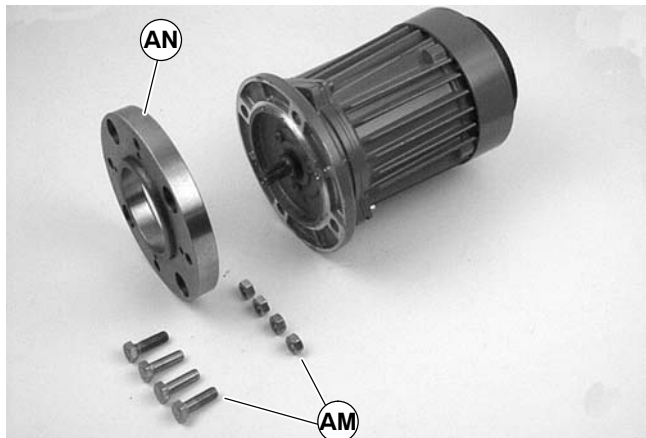

Figure 29
4. Remove four (4) screws and nuts (AM of Figure 29). Remove adapter flange (AN).